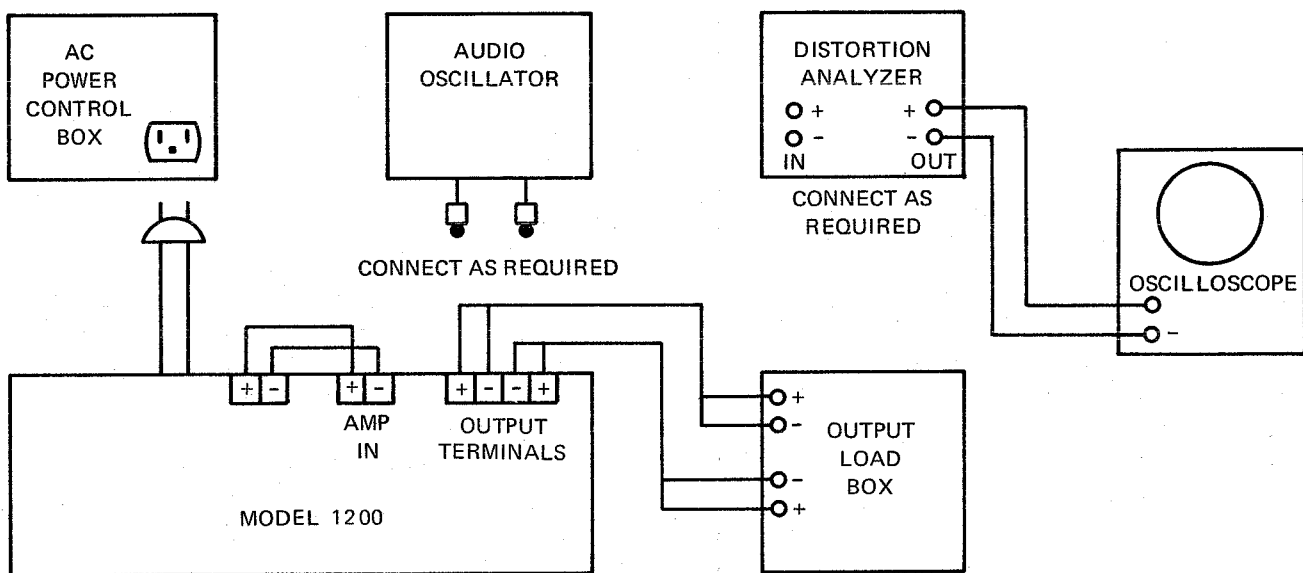

Figure 12. Test Equipment Set-Up
12. Output should follow curve shown in figure 12 ( $\pm$ 2dB) as indicated on distortion analyzer.